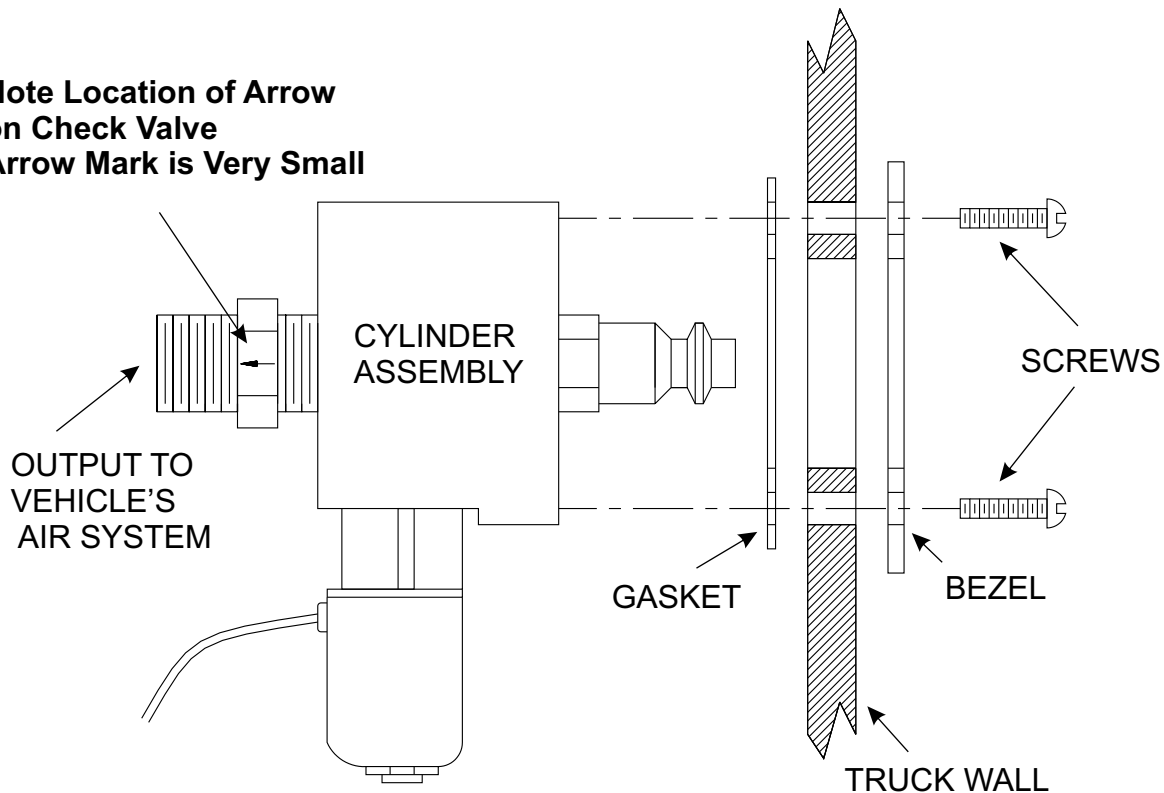

Figure 1
3. Mount the Cylinder Assembly as illustrated in Figure 1.